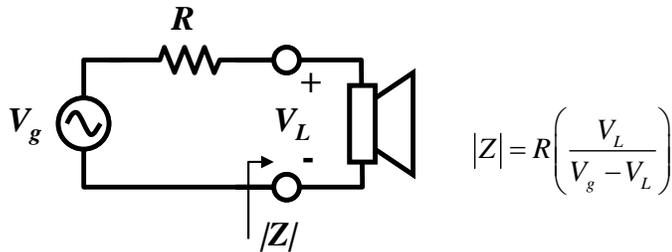

Figure 1-6 – Speaker test circuit
- Electrically connect your speaker to the function generator as shown in Figure 1-6, using a small resistor  $R$  in series with the speaker (something around  $50\ \Omega$ , or two  $100\ \Omega$  resistors in parallel, seems to work well). This creates a voltage divider, so that the voltage across the speaker is proportional to the magnitude of its impedance. Thus by measuring  $V_g$  and  $V_L$  we can map out the variation of impedance with frequency using the formula in Figure 1-6.